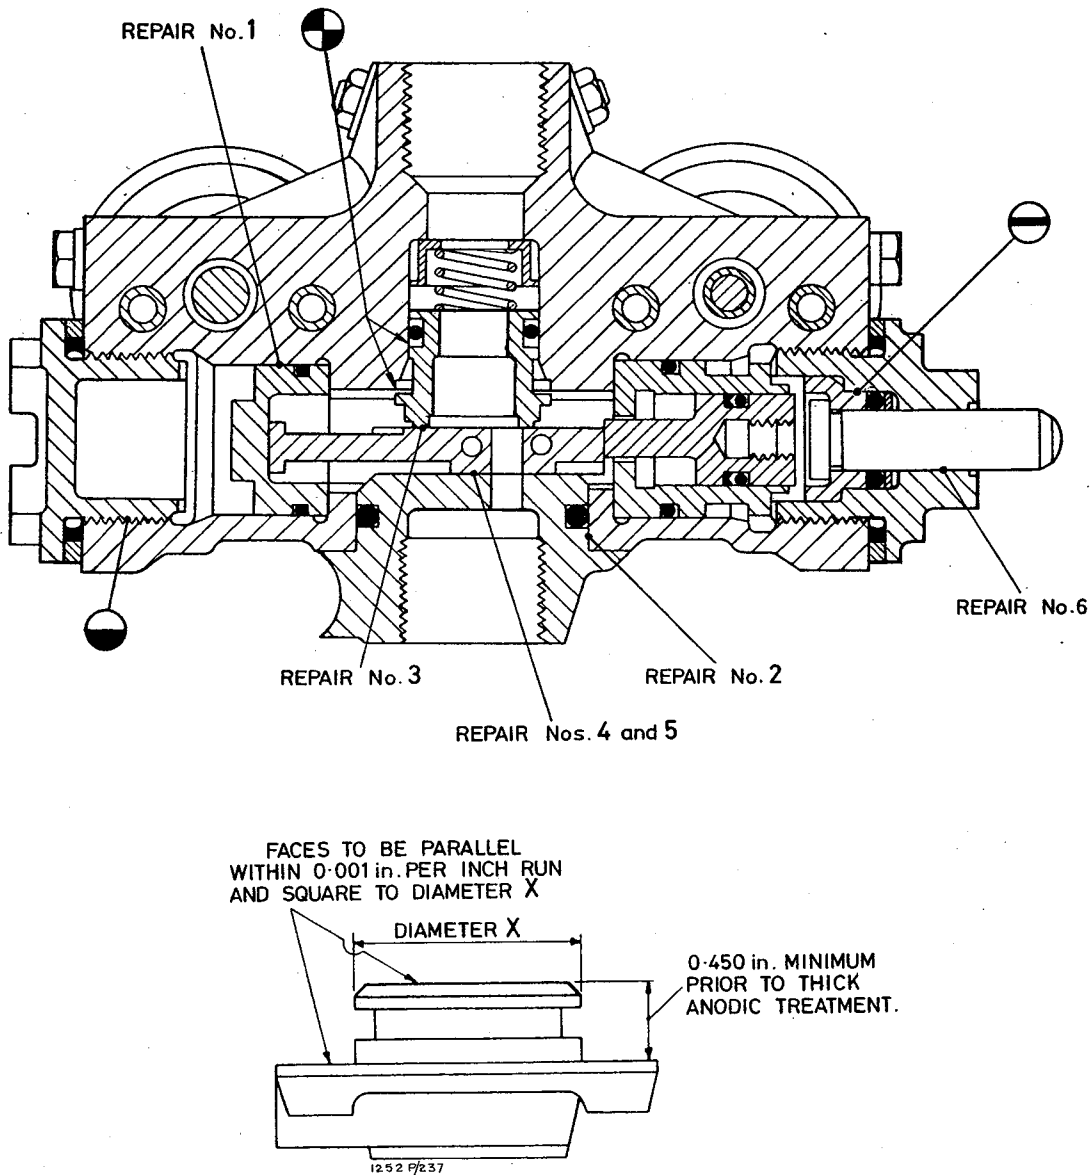

Fig. 2 Repair - locations
REPAIR No.1Repair to valve body (fig.2)Repair procedure
REPAIR No.2Repair to valve body (fig.2)Repair procedure
REPAIR No.3Repair to slide and thimble (fig.2)Repair procedure
REPAIR No.4Repair to connection block (fig.2)Repair procedure
REPAIR No.5Repair to connection block (fig.2)Repair procedure
- (1) Grind back metal, removing 0.004 in. within the dimension quoted on fig. 2.
- (2) A flat surface with a finish of 4 micro inches C.L.A. max. must be achieved.
- (3) Hard anodise and finally lap in accordance with PS104, achieving a final surface finish of 4 micro inches C.L.A. max.
#### Repair to button housing (fig.2)